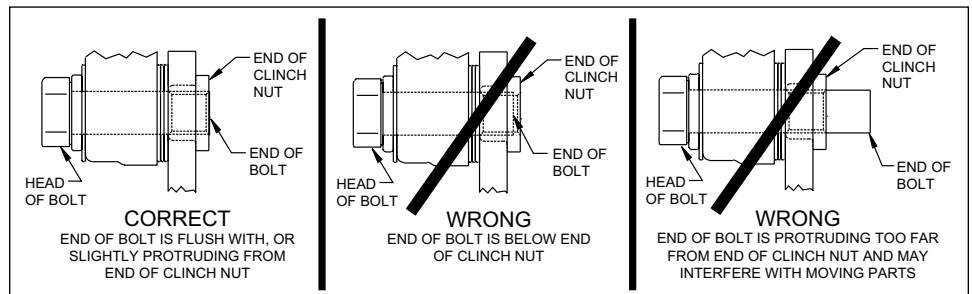

Figure 4. Clinch Nut Engagement Diagram
**CAUTION:** All mounting bolts must fully engage clinch nuts. Be sure to check that all bolts are either flush or protruding through flanged side of clinch nut after shimming, Figure 4.
Always use the same amount of shims on each of the two mounting bolts. **NOTE:** The end of each bolt must be flush with or slightly protruding from the head of the clinch nut, as shown in Figure 4. If necessary place spare shims between washer (6) and caliper mounting ear to achieve the proper clinch nut engagement. Once the caliper alignment and clinch nut engagement are correct, remove the bolts one at a time, apply red Loctite® 271 to bolt threads, and torque to 40 ft-lb.